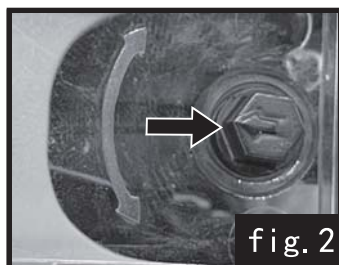

fig. 2
1. Use the complimentary wrench to clamp on the cabin lock at an angle of 45, and then turn the lock to the left or right. (Please ensure that the arrow of the cabin lock is in the left or right direction.), fig. 1 and fig. 2.